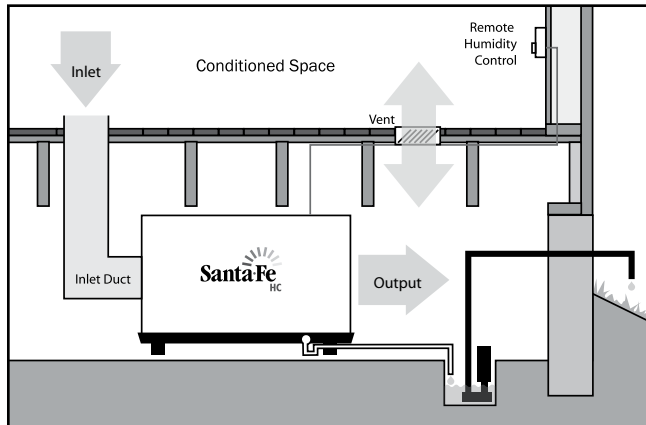

Figure 5: Installation in a remote area with ducted inlet only
3.1E In A Remote Area, Duct Inlet Only (fig. 5)